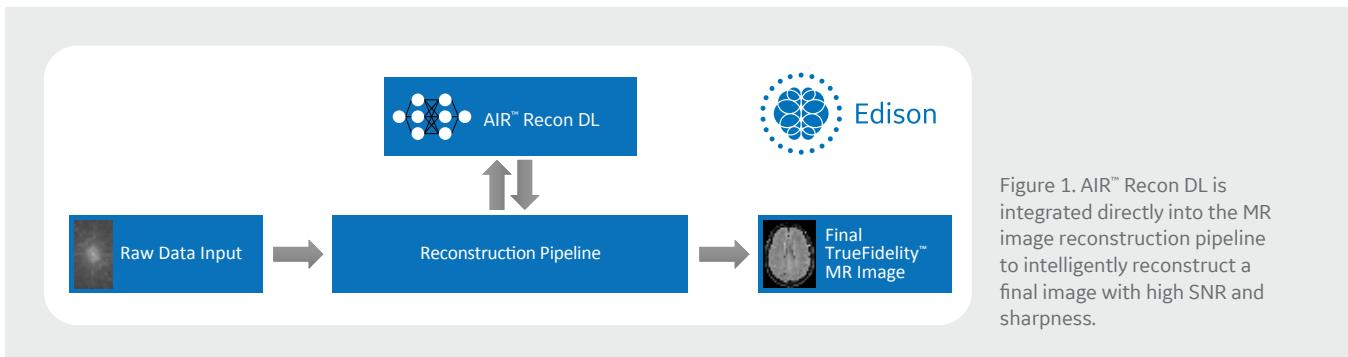

Figure 1. AIR™ Recon DL is integrated directly into the MR image reconstruction pipeline to intelligently reconstruct a final image with high SNR and sharpness.
AIR™ Recon DL represents a revolution in MR image reconstruction by introducing a deep learning-based convolutional neural network to intelligently reconstruct a final MR image with high SNR and image sharpness. AIR™ Recon DL is not a post-processing technique but rather is embedded directly in the reconstruction pipeline, where the neural network model is applied to acquired input data to remove noise and ringing artifacts prior to final image formation (Figure 1). By operating on raw data within the online reconstruction
Figure 1. Long bone/soft tissue assessment in 10-year-old patient, both legs imaged simultaneously with AIR™ AA Coil. (A, B) Coronal T2 FSE Flex, $0.9 \times 1.2 \times 5$ mm, 2:54 min.; (B) Water image; (C) Axial T2 FSE Flex (Water), $1.2 \times 0.8 \times 5$ mm, 2:31 min.; and (D, E) Axial DWI with ADC Map.